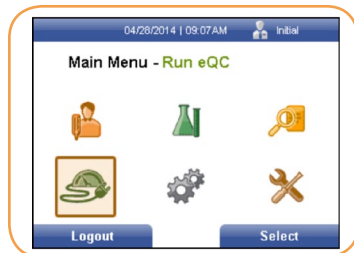

FIGURE 109
- Using the [→] or [←] and [↓] or [↑] keys, select the EQC icon from the Main Menu screen (Figure 109).